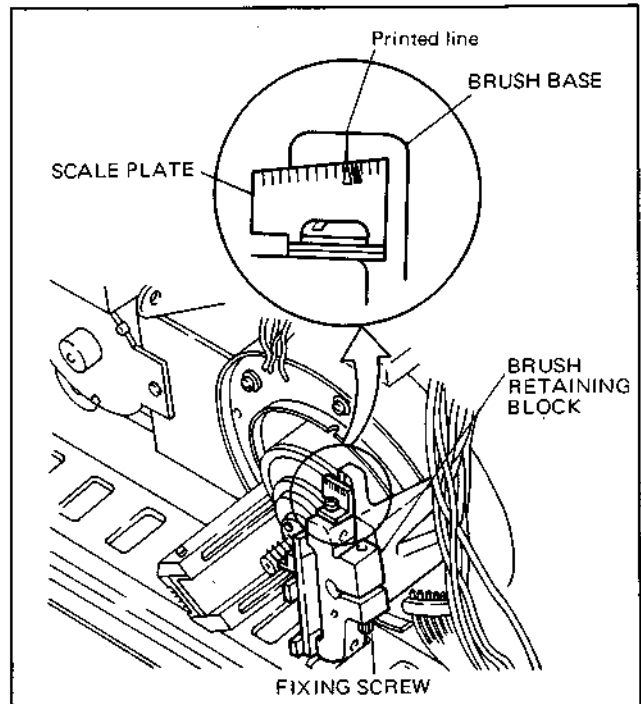
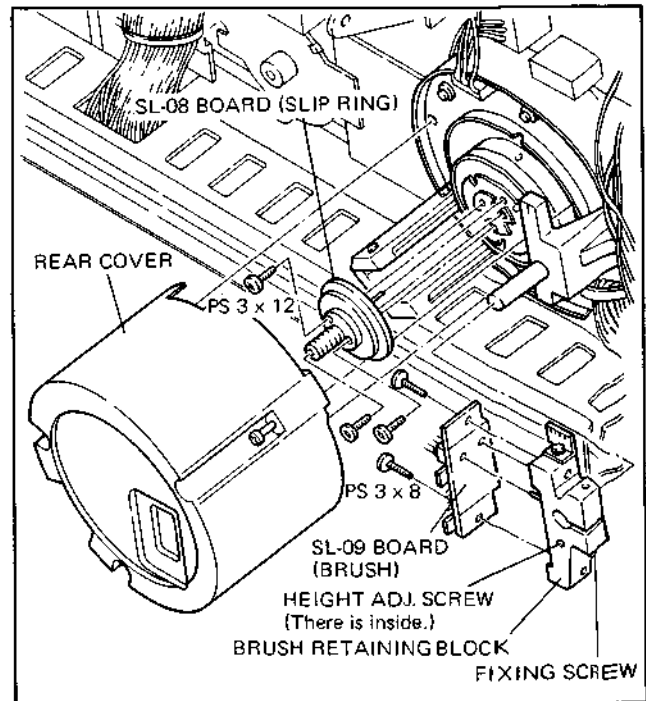

Fig. 3-13. Brush Pressure Adjustment
Fig. 3-14. Replacement of Slip Ring and Brush
8. Turn the height adjustment screw shown in Fig. 3-14 so that the each brush comes to the center of each slip ring groove. And adjust the brush mounting block so that all brushes up to the last one contact the center of the slip ring grooves. At this time, Δ shows the point where the line marked on the brush base intersects the scale plate, move the brush retaining block to the position \blacktriangle next to Δ , and then tighten the screw.
7. Turn the height adjustment screw shown in Fig. 3-14 so that the each brush comes to the center of each slip ring groove. And adjust the brush mounting block so that all brushes up to the last one contact the center of the slip ring grooves. At this time, Δ show the point where the line marked on the brush base intersects the scale shown in Fig. 3-13, move the brush mounting block to the position \blacktriangle next to Δ , and then tighten the screw.